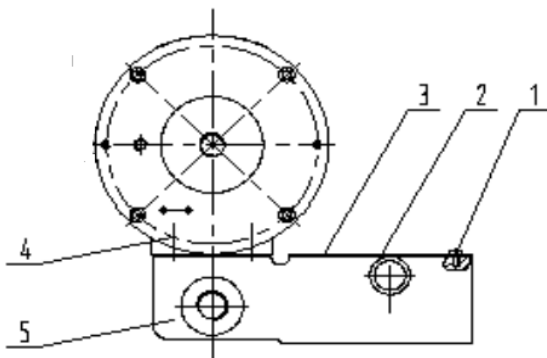

Fig. 1.1
Loosen item 1 four screws in fig. 1.1, remove the item 2 cover, remove the item 3 brake power line and micro switch line from the terminal, and remove the item 4 four bolts, the brake can be removed from item 5 brake mounting bracket.